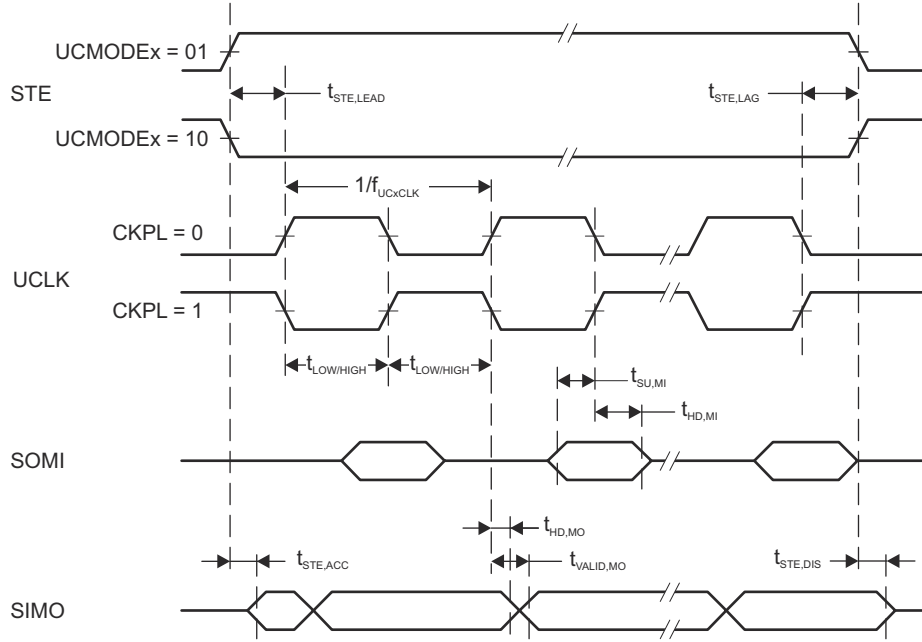
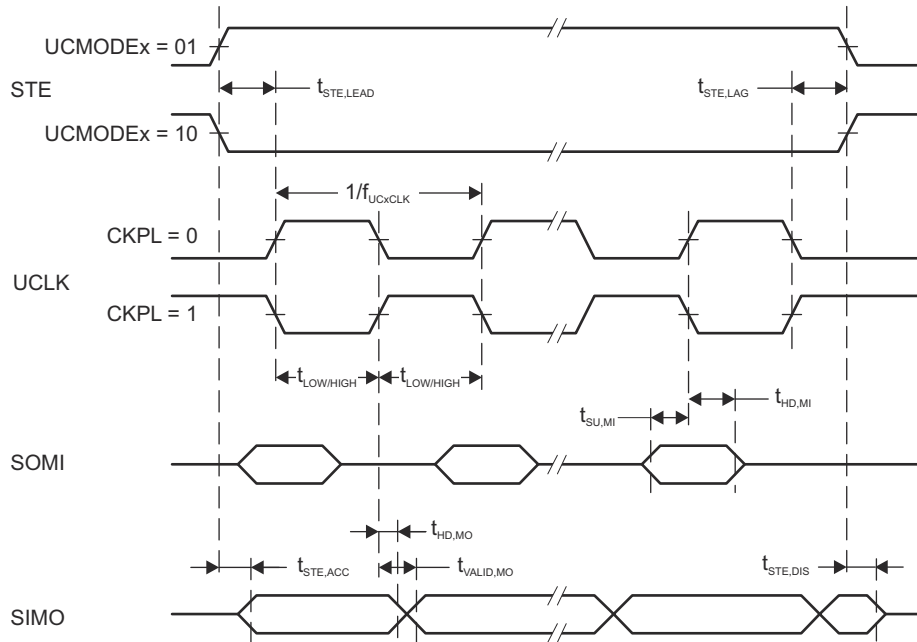

图 8-13. SPI Master Mode, CKPH = 0
图 8-14. SPI Master Mode, CKPH = 1
- (1) $f_{UCxCLK} = 1/2t_{LO/HI}$ with $t_{LO/HI} = \max(t_{VALID,MO(eUSCI)} + t_{SU,SI(Slave)}, t_{SU,MI(eUSCI)} + t_{VALID,SO(Slave)})$. For the slave parameters $t_{SU,SI(Slave)}$ and $t_{VALID,SO(Slave)}$, see the SPI parameters of the attached slave.
- (2) Specifies the time to drive the next valid data to the SIMO output after the output changing UCLK clock edge. See the timing diagrams in Fig 8-13 and Fig 8-14.
- (3) Specifies how long data on the SIMO output is valid after the output changing UCLK clock edge. Negative values indicate that the data on the SIMO output can become invalid before the output changing clock edge observed on UCLK. Refer to the timing diagrams in Fig 8-13 and Fig 8-14.